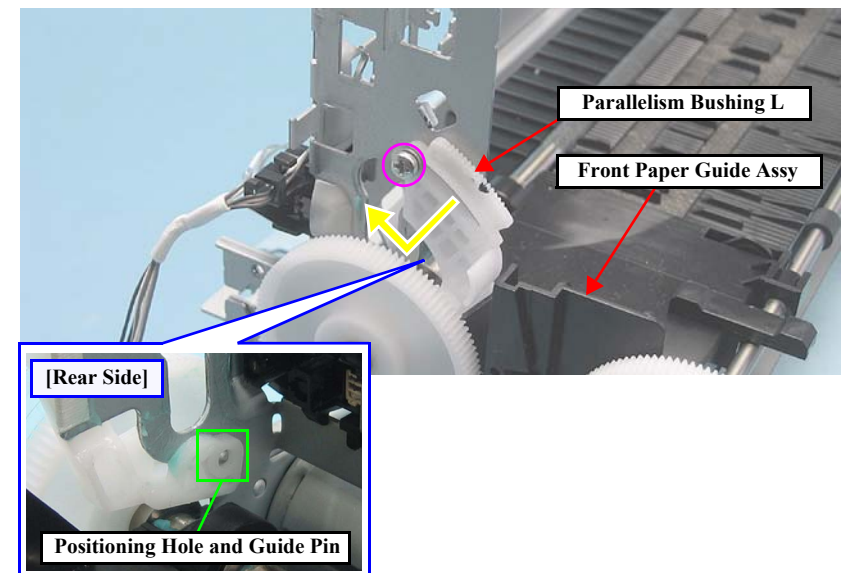

Figure 1-108. Removing the Parallelism Bushing L
- When installing Parallelism Bushing L, match the positioning hole with the guide pin shown in Fig.1-108 (p.57).